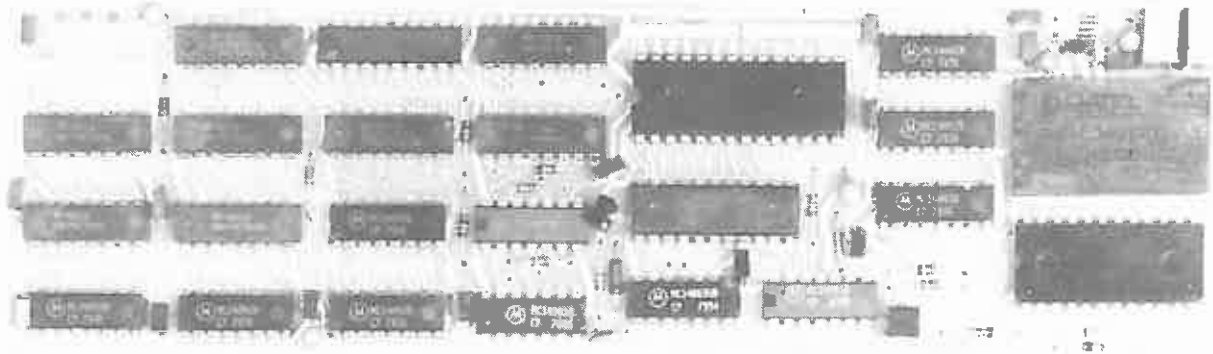

Figure 1-6. Model 300-RH COMP™ RH Computer Option.
1.2.4 Model 300-RH COMP™ RH Computer Option (Figure 1-6)